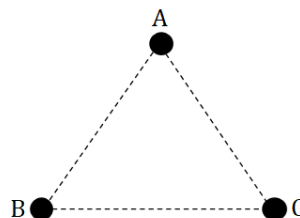

Figure 6
9. (a) Three footings A, B and C (Fig. 6) are placed at locations forming an equilateral triangle of 5 m sides and carrying vertical loads of 300, 650 and 1200 kN, respectively. Determine the vertical stresses by means of Westergaard's equations at a depth of 3 m vertically below the centre of footings A and B. [(CO6)(Evaluate/HOCQ)]